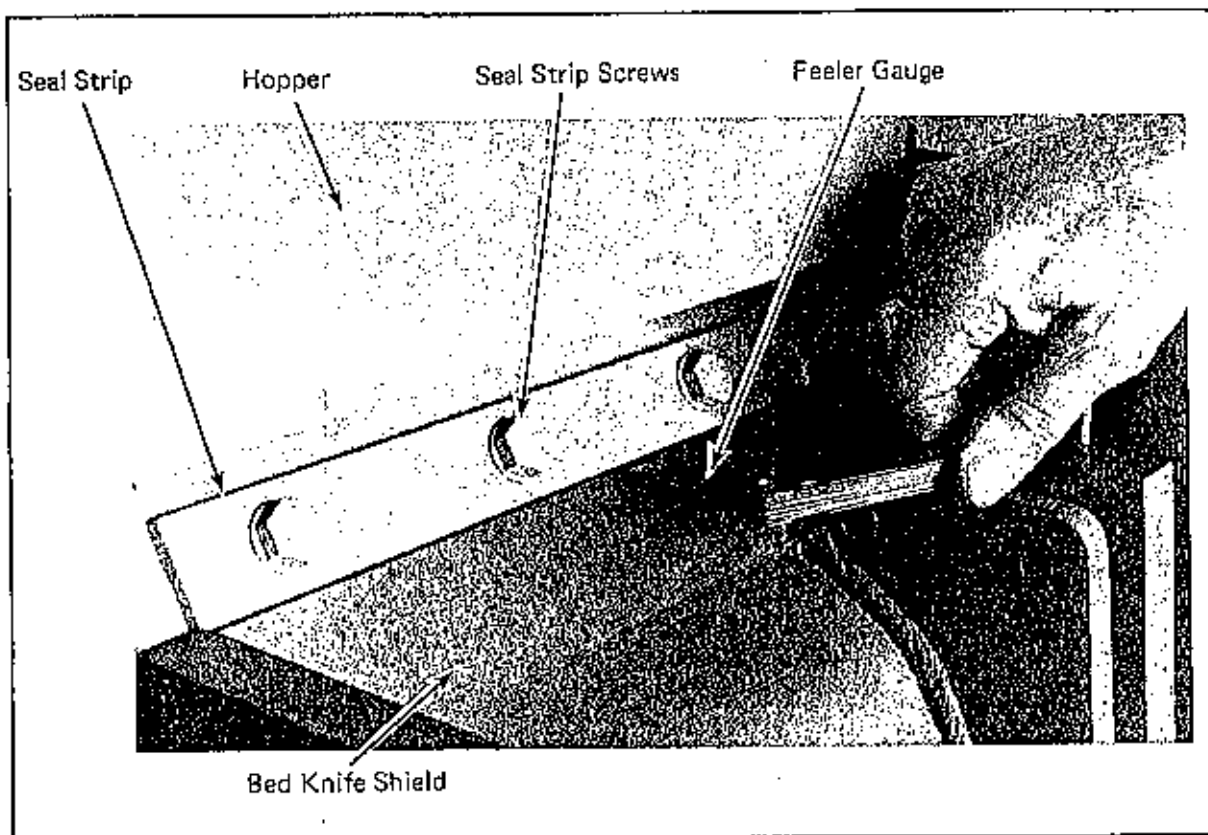

Figure 3-3. Use of Feeler Gauge For Seal Strip Settings (Typical)
14. Check that gaps between the seal strips (see Figure 3-3) and cutting chamber are less than 0.15 mm (0.006"). Release the screws to make any adjustment, and retighten when adjustment is complete.
12. Check that the gaps between the seal strips (see Figure 3-3) and cutting chamber are less than 0.15 mm (0.006"). Release the screws to adjust, if necessary, and retighten when finished.